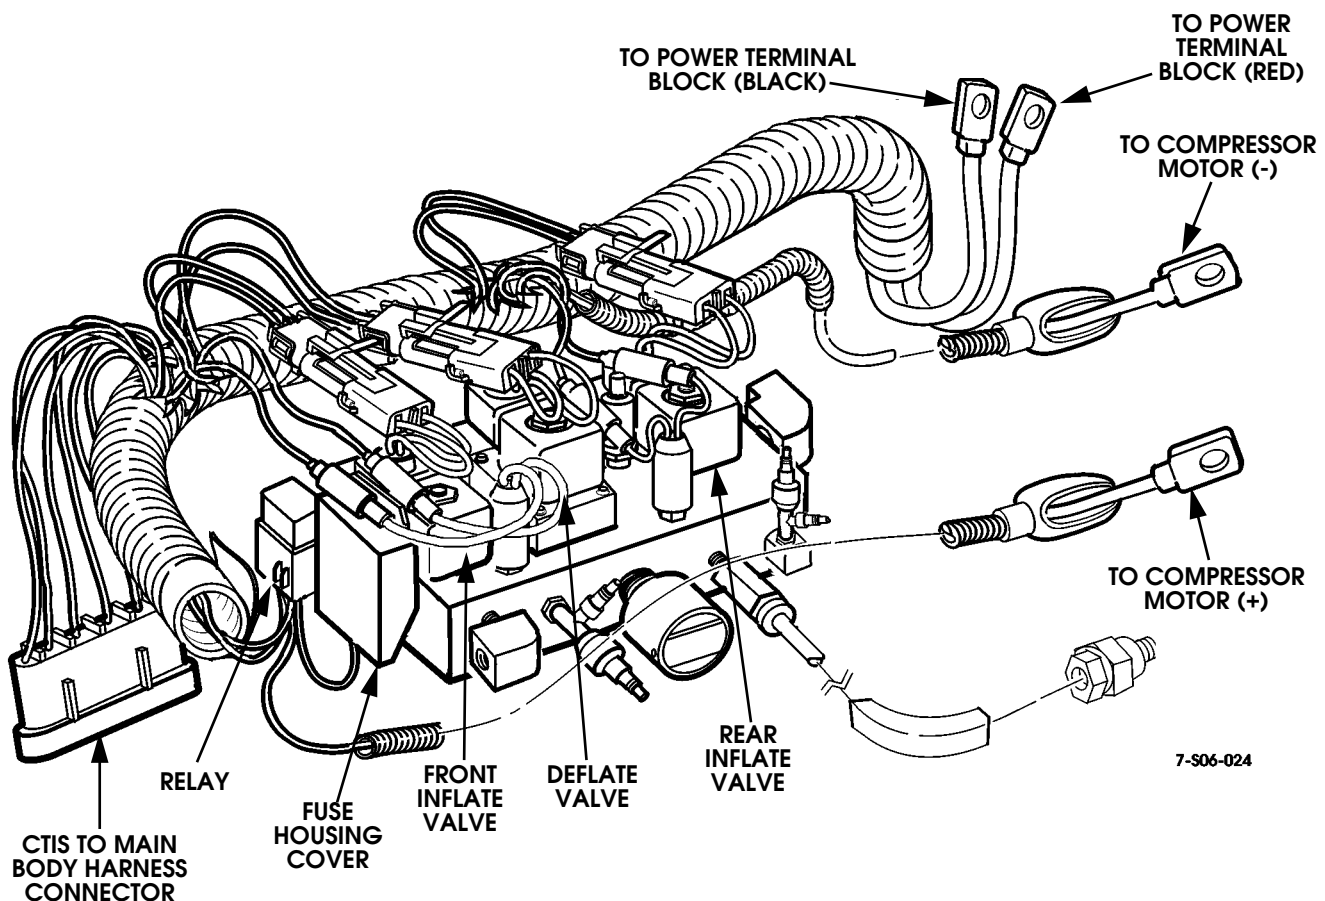

Figure 6-66: CTIS Exterior Harness Assembly
3. Remove two nuts, red lead, and black lead from power/ground stud (Figure 6-66).
2. Install two leads on compressor with nuts and slide two boots over terminals (Figure 6-66).